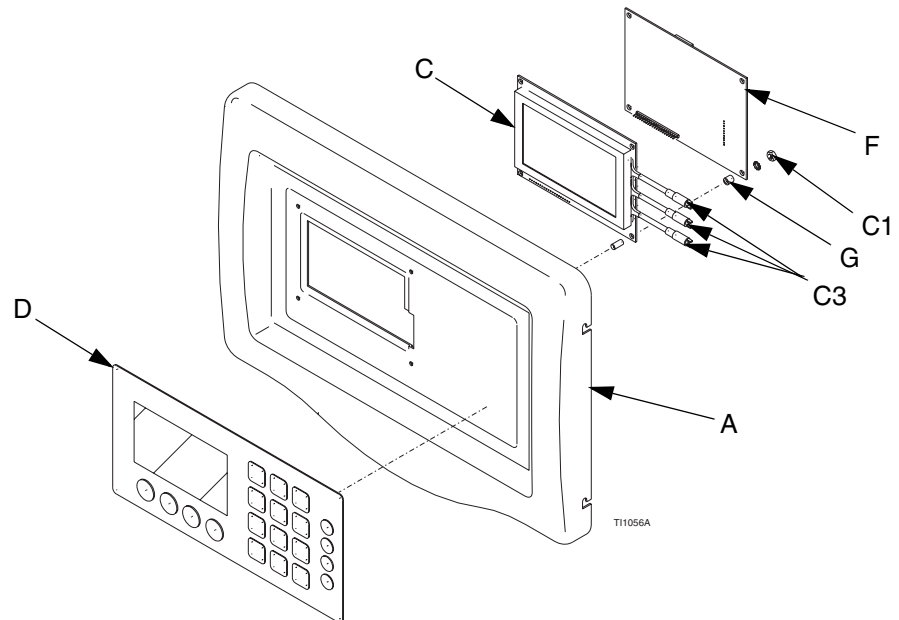

FIG. 15
2. Remove controller cover (A). See page 37, steps 1-4.
3. Unplug keypad (D) ribbon cable from the display board. Note position of cable in connector. Arrow indicates pin #1, reconnect with pin #1 engaged.
4. Remove four nuts (C1) from the board. See FIG. 15.
6. Unplug three fiber optic connectors (C3) from the diodes, then remove display board (F).
- *Spacers (G) must be used in correct positions to protect the display and board.*
2. Remove the display (C). See FIG. 15.
2. Remove display (C). See FIG. 15.
3. Peel the membrane (D) off the controller cover.
4. Remove adhesive liner from the new membrane. Align the membrane with recessed area on the panel (A), and press it into place.